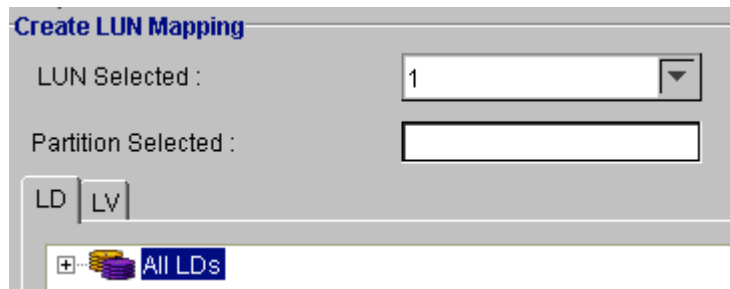
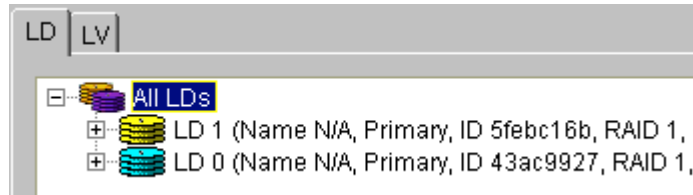

Figure 9-5: Create LUN Mapping
Figure 9-6: LD List
Step 4. The *Create LUN Mapping* window should appear in the content panel (see *Figure 9-5*). If you want to map a logical drive then select the **LD** tab shown in *Figure 9-5*. If you want to map a logical volume, select the **LV** tab shown in *Figure 9-5*.
Step 5. List the available logical volumes or logical drives by clicking on the “All” icon in the respective window. For example, in *Figure 9-5* if the “All LD” icon is clicked, all available LDs will be shown (see *Figure 9-6*).